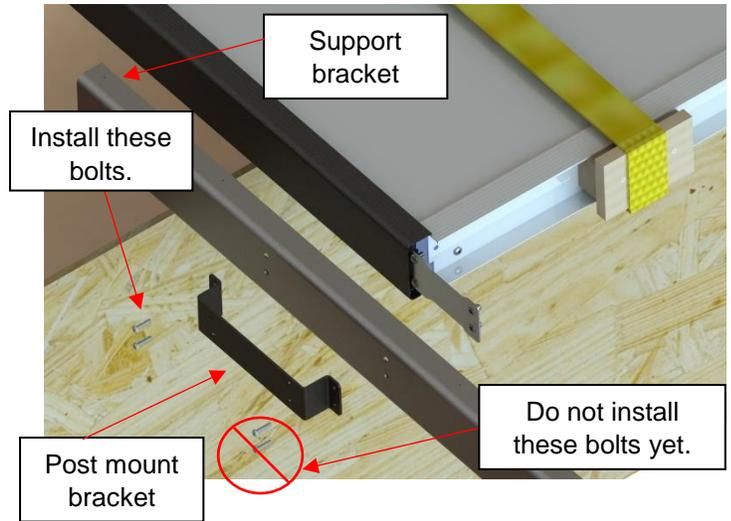

Figure 62
17) Assemble the support bracket on the other end of the cover (Figure 62).
18) Attach the post mount bracket and the support bracket with the 1/4-20 x 1" hex drive rounded head screws (5/32" (4 mm) drive) (63.9 in-lbs) (Figure 62).